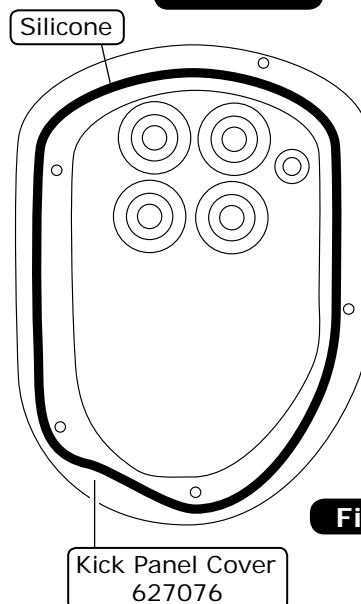

Figure 2
5. Apply 1/4" bead of silicone around the back side of the kick panel cover (See Figure 2, below).